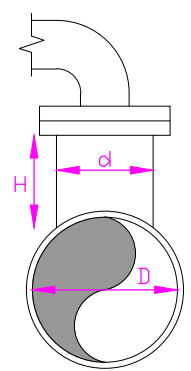

FIGURE 3C: OFFSET AIR VALVE CONNECTION TO MAINS ≥DN375
• SUITABLE WHERE THERE IS LIMITED COVER AND FIGURE 3C IS IMPRACTICAL, or